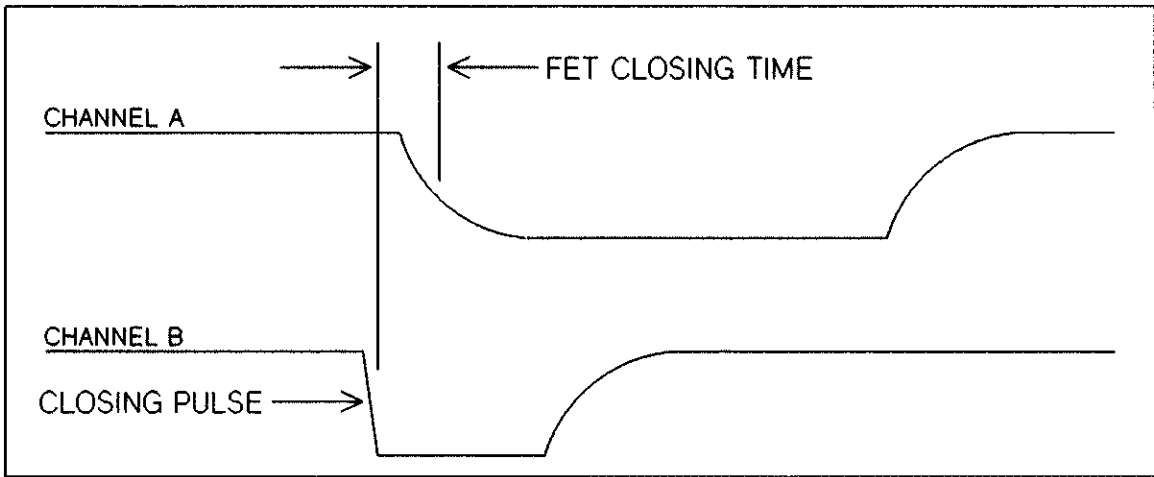

Figure 10-30 HP 44712A Closing Time
3. Rotate the DELAY SWEEP dial on the oscilloscope to the minimum position. Slowly rotate the dial clockwise until the first closing is displayed. The Channel B trace is the closing pulse output from the multiplexer. The Channel A waveform is the +5V supply, as switched by the FET channel switches. As the DELAY SWEEP dial is rotated, each channel switch and the associated CLOSING pulse will come into view. The FET closing time is the time from the falling edge of the CLOSING pulse to the falling edge of the Channel A waveform. This time must be less than 2.25  $\mu$ seconds. The closing time is illustrated in Figure 10-30.